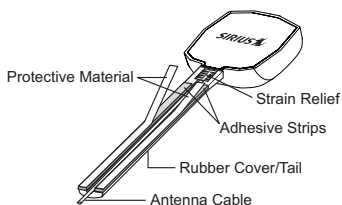
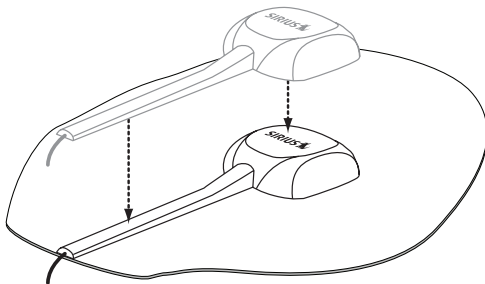

Figure 9
Figure 10
2. Attach the rubber cover/tail to the antenna, as shown in Figure 9, and press the antenna cable into the rubber cover/tail. The rubber cover/tail will help to position the antenna the correct distance from the edge of the roof or trunk lid.
4. Peel the protective material from the adhesive strips (Figure 9) and press the rubber cover/tail firmly into place on the vehicle (Figure 10).